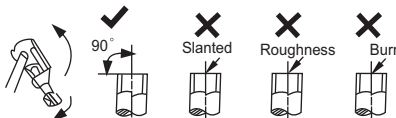

Fig. 6 – Cut the Pipe
2. Cut the pipe, with a pipe cutter, at 90 degrees (see Fig. 6).